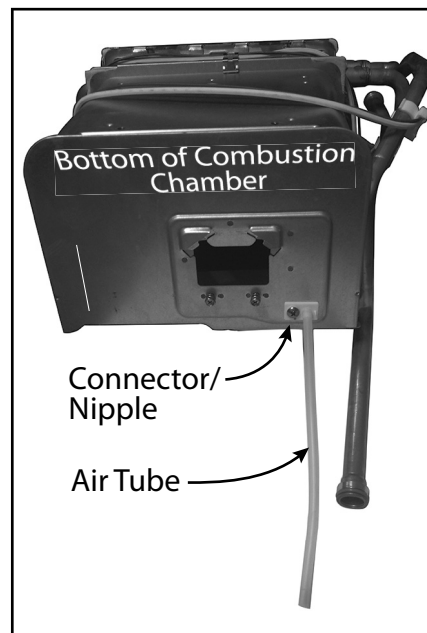

Figure 33.
- 10.1 Remove the clear air tube from the bottom of the combustion chamber. If needed, refer to Figure 33, page 41.
- Air tube and its connector/nipple on the bottom of the combustion chamber. (See page 41, Figure 33.)